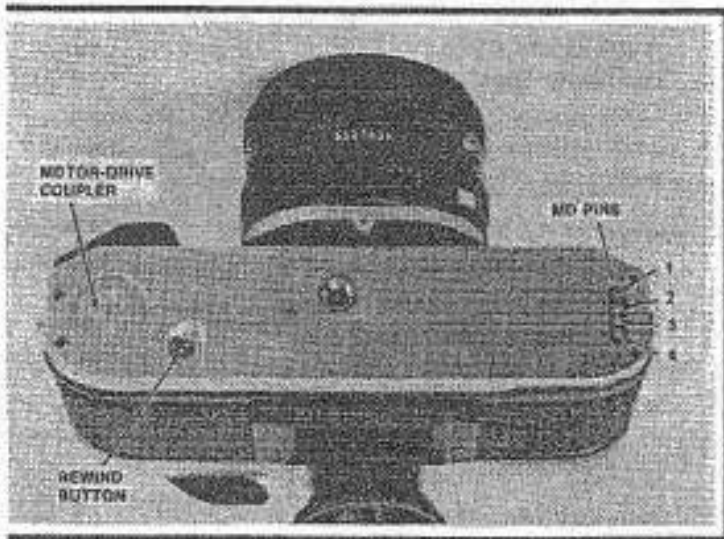

Figure 3
- Power winder. You can check for proper power-winder and motor-drive switching by making ohmmeter and shorting tests at the MD pins, Fig. 3. Pin 3 should always connect to the ground. Pin 2 should connect to ground with the shutter released (no continuity to ground with the shutter cocked). Pin 4 should connect to ground when you fully depress the release button. Shorting pin 1 to ground should turn on the LED display.